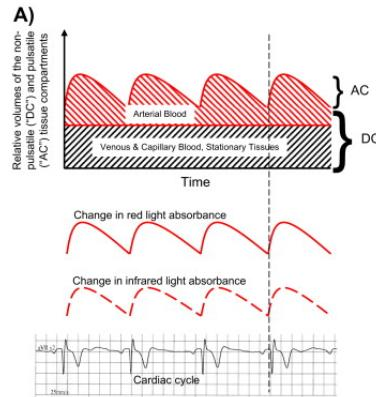

Figure 3: AC and DC components (light absorbance) by a pulse oximeter (1)
The light intensity measured by the pulse oximeter includes both a pulsatile(AC) component caused by the pulsating blood through the arteries and steady(DC) component caused by ambient light and tissue absorption(Figure 3). The oximeter's signal processing algorithm separate the AC and DC components. In order to cancel the effect of ambient light, the sensor's algorithms continuously monitor the changes in the DC component caused by ambient light. This is done by periodically measuring the DC component during periods when the AC component is at its minimum (for example when the user is exhaling) and then using this as a baseline to subtract it from subsequent measurements (1).